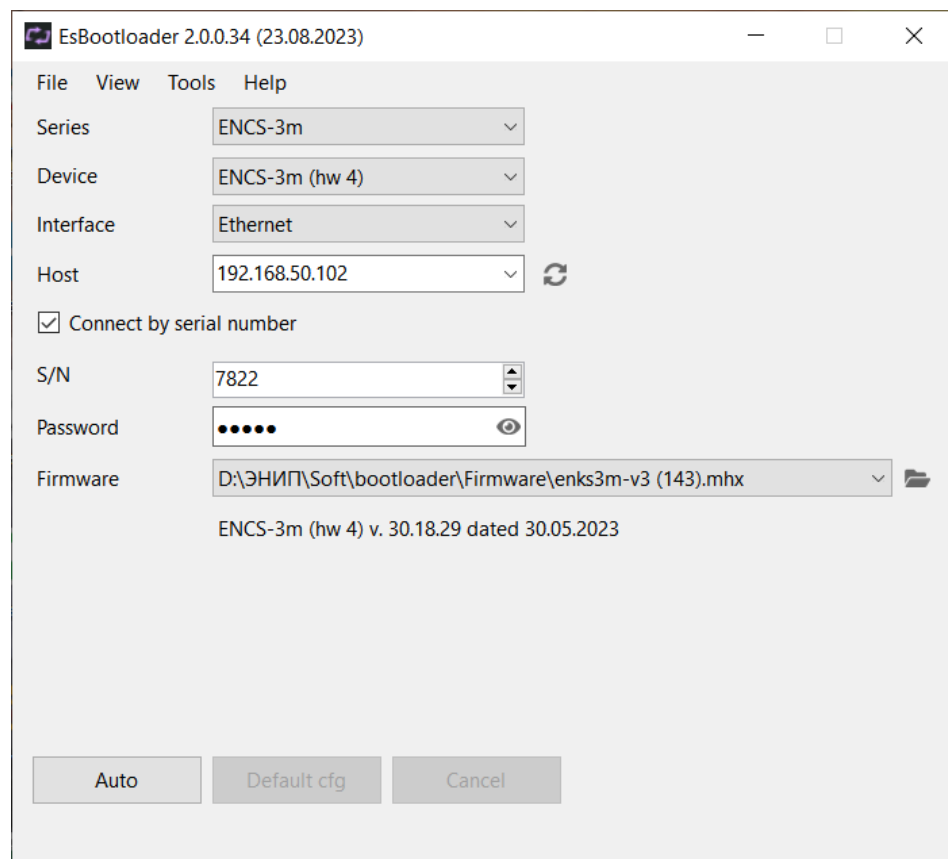

Figure 8.1. RTU ENCS-3m firmware update using the software "ES BootLoader".
- In the "Firmware" field, open the file with the latest firmware for the selected device (see Fig. 8.1) or select "Download Latest Firmware" to automatically download the latest version.